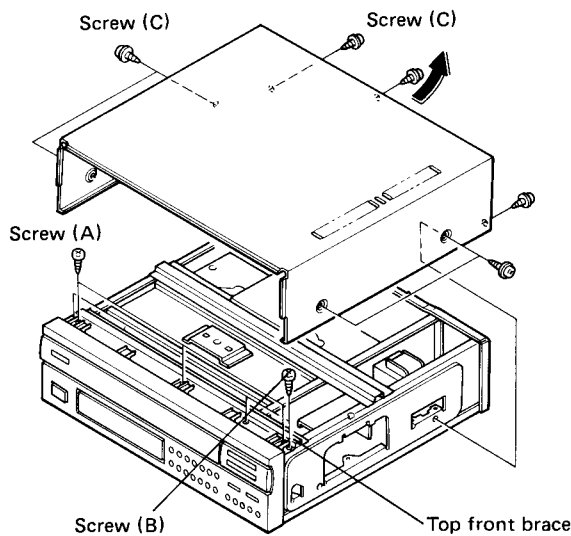

Fig. 1
3. Remove the screws (A) retaining the front panel, and stretch the two connective cords for the FRONT assembly. Place the front panel with the control keys facing upward in a position which will not contact the disc tray even when it comes out open. (Figs. 1, 2-1)
4. Remove the top front brace by removing the screws (B). (Fig. 1)
9. Attach the top front brace. (Fig. 1)
10. Return the connective cord of the front panel to the original condition, and attach the front panel with screws. (Fig. 1)
11. Attach the top cover. (Fig. 1)
1. Remove the top cover, then detach the RGB assembly (PG06) together with the insulator. (Figs. 1 and 2-1)